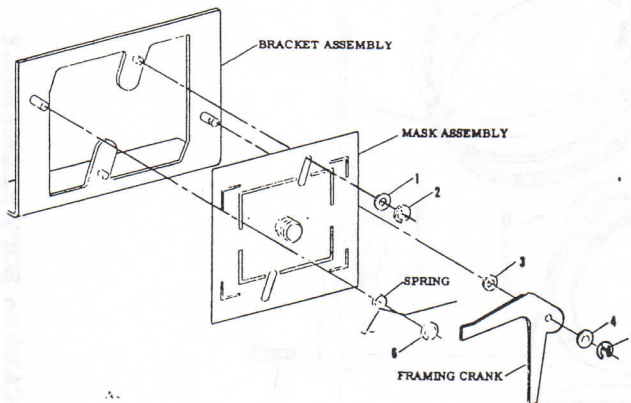

Figure 1-7. FRAMING MASK REASSEMBLY
3. Framing Mask (Figure 1-7)
a. Secure mask assembly to bracket assembly with washers (1) and retaining ring (2).
b. Place washer (3) on stud located at lower right side of bracket assembly.